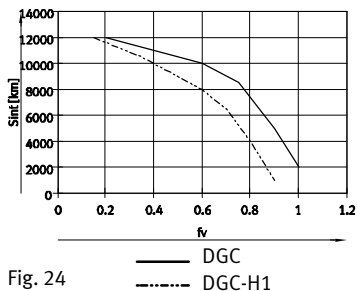

Fig. 24
- Calculate the load comparison factor f_v with the aid of the formula for combined loads (→ Technical data) and determine the lubricating interval S_{int} from Fig. 24.